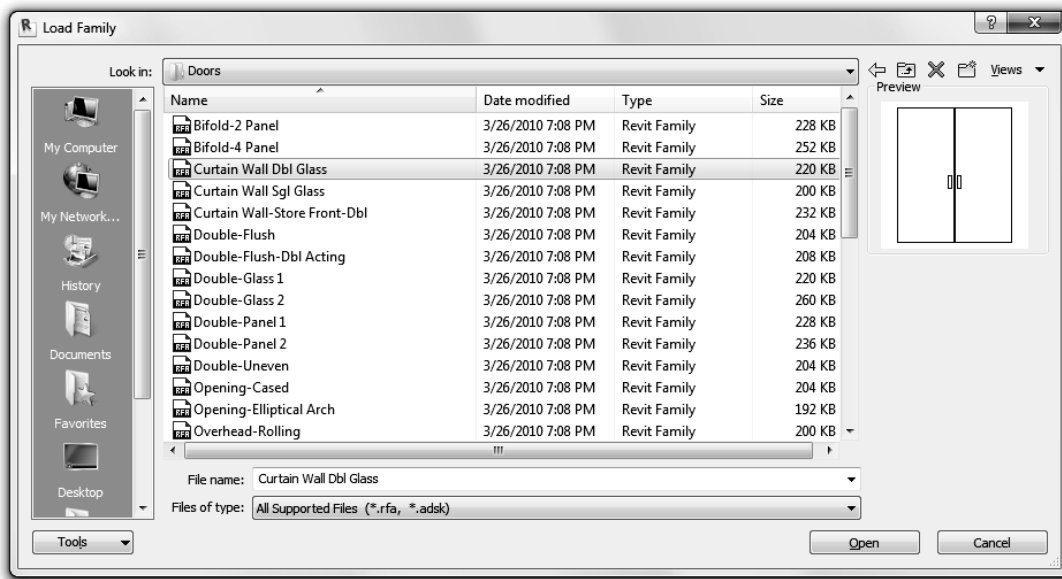

FIGURE 3-5.2 Door families on hard drive
Each file represents a *Family*; next you will load four door *Families* into your project (Figure 3-5.2).
4. Select **Curtain Wall Dbl Glass.rfa**, and then click **Open**. (Figure 3-5.2)